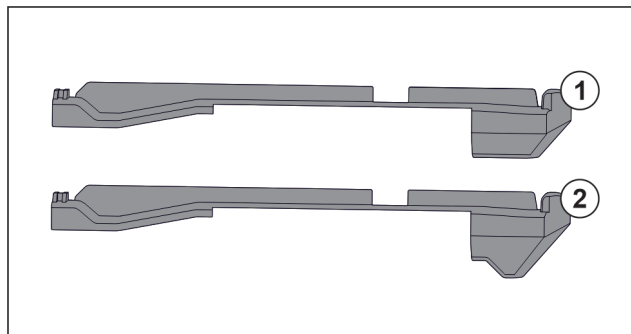

Fig. 128 Comparing attachments
There are two different attachments in the appliance. The attachment above the lowest drawer Fig. 128 (2) has a three-cornered edge. All other attachments Fig. 128 (1) have a straight edge.
- Fit attachment Fig. 128 (2) with the three-cornered edge above the lowest drawer.
- Fit attachment *Fig. 128 (1)* with straight edge in all other positions.